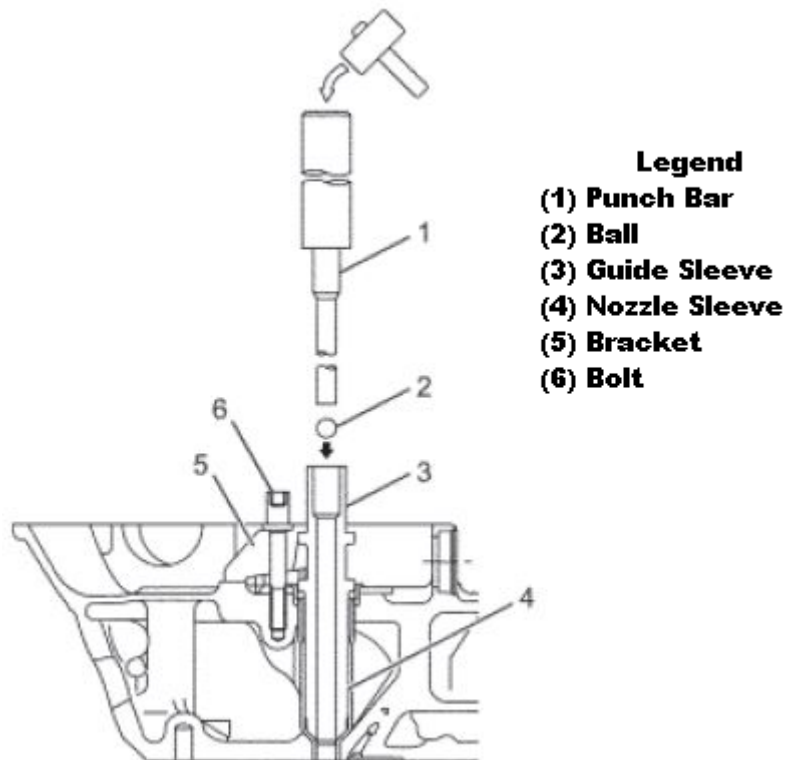

Figure 2. Tooling Detail
- Insert the sleeve and secure it by tightening bracket bolt #6 shown in Figure 2.